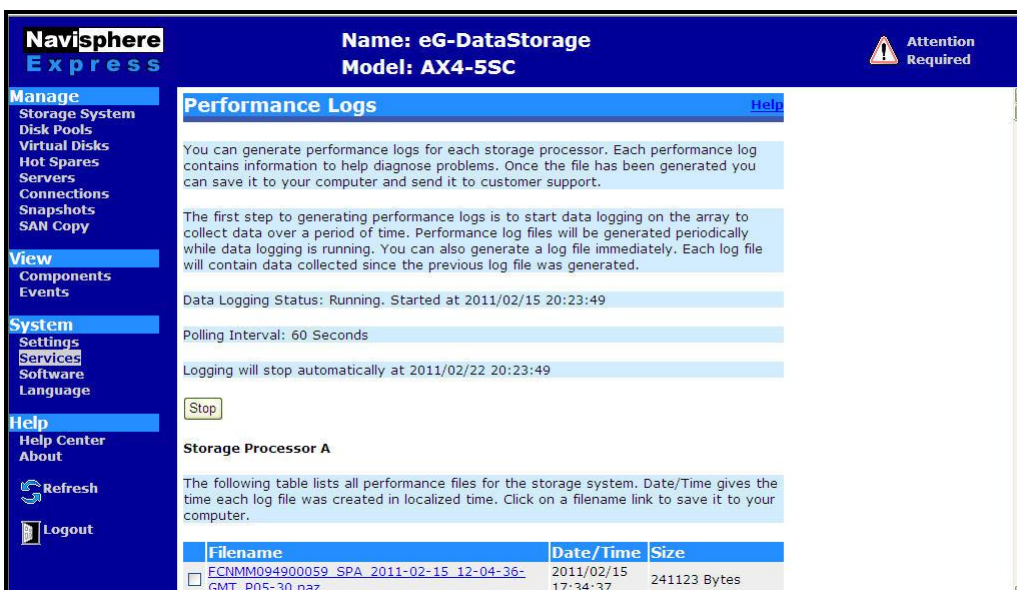

Figure 1.10: Reviewing data logging specifications
9. Figure 1.10 then appears where you can review your data logging specifications.